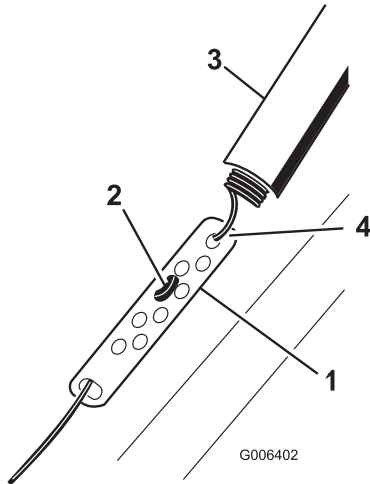

Figure 26
1. Slide up the spring cover and unhook the spring from the adjuster link (Figure 26).
2. Move the Z-fitting to a higher or lower hole on the adjuster link as needed to obtain the 1/16 inch to 1/8 inch (2 mm to 3 mm) gap between the control bar and the handle (Figure 26).